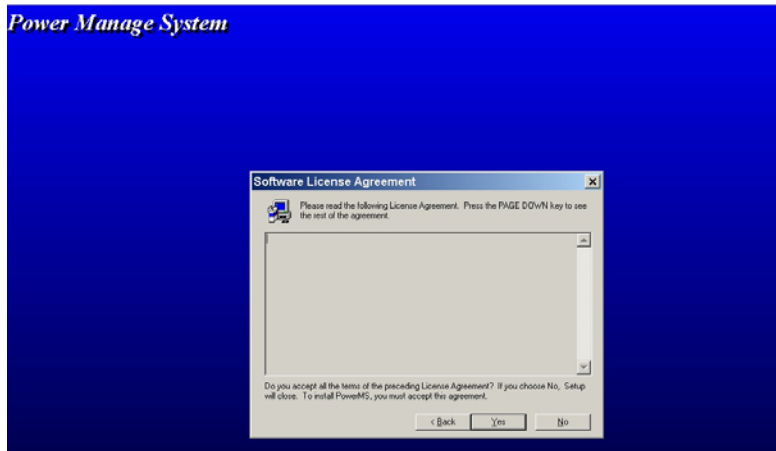

Fig. 3-3 The License agreement window
3.1.3 Fig. 3-3 displays the software license agreement. Read it and press “YES” to continue, Otherwise, the install will be discontinued.